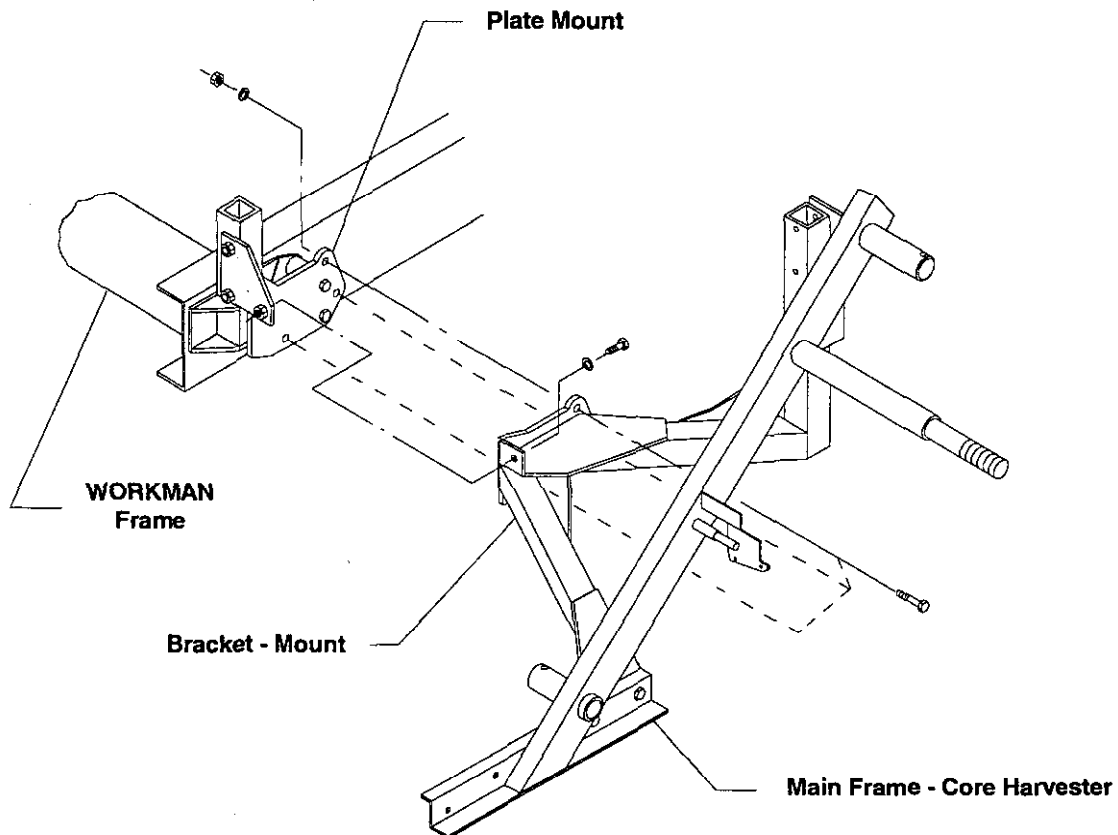

Figure 4
7. Attach the Core Harvester to the Workman using 1/2 x 1 1/4" as shown in Fig. 4.
1. See Fig. 4 to get a general idea of assembly. Cut the extension boards to length required, depending on the truck bed used (2/3 or full).